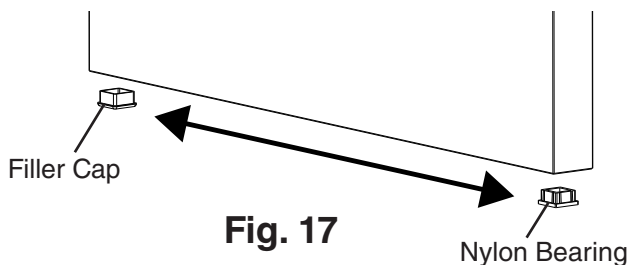

Fig. 17
- 10) Remove the filler cap and nylon bearing from the bottom of the door. See Fig. 17. Reinstall on the opposite side.